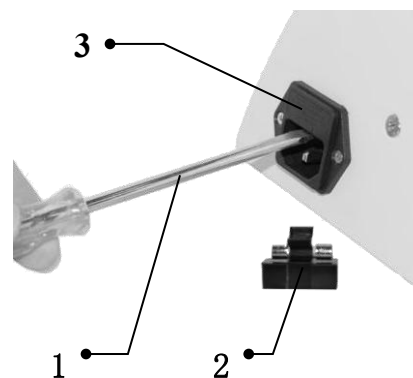

Figure 17
This instrument fuse is used to light for transmitted lighting system, fuse\_3 is integrated at the input power adapter of host, as figure 17.
- (1) Turn off the power switch 1, and unplug the power cord 2, as figure 17.
- (2) Take out fuse basement 2 by flat screwdriver 1 as image shows, then take off broken fuse and insert new fuse, out the fuse basement back to host input power adapter.
- (3) Re connect power to check if it works well.